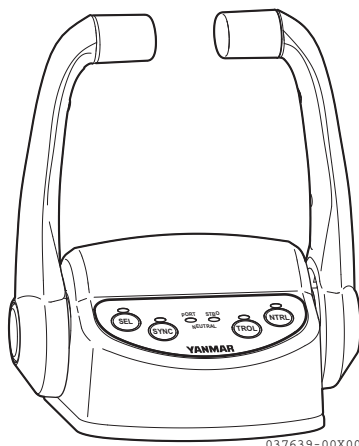

Figure 9
- The switch panel lamp will come on, and the control head (**Figure 9**) “SEL” lamp (**Figure 10**) will come on or flash.